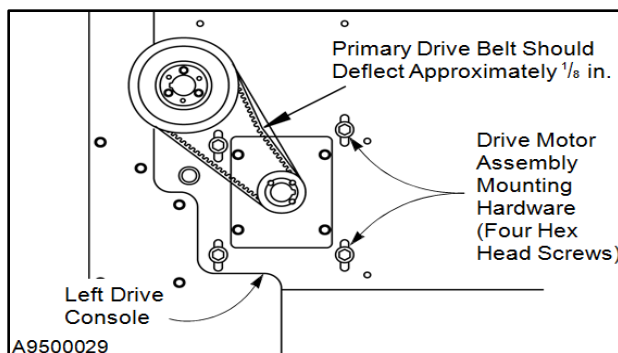

Figure 43
3. Loosen the four hex head screws securing the drive motor assembly to the left drive console. (See Figure 43.)
11. Re-inspect the drive belt to make sure it is properly tensioned. (See Figure 43.)